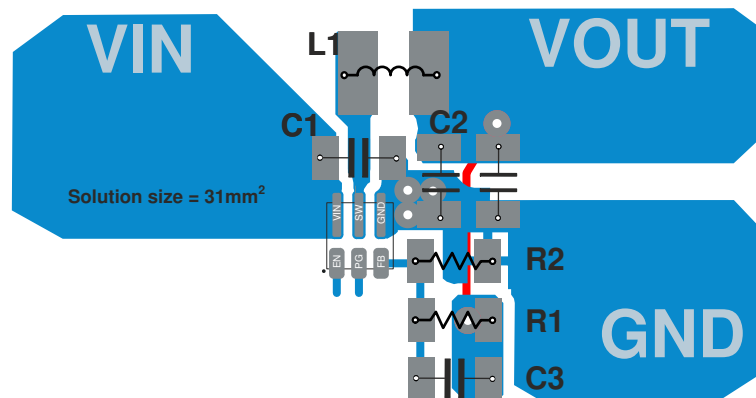

图 10-1. PCB Layout Recommendation
The printed-circuit-board (PCB) layout is an important step to maintain the high performance of the device. See Figure 10-1 for the recommended PCB layout.
- Refer to Figure 10-1 for an example of component placement, routing and thermal design.